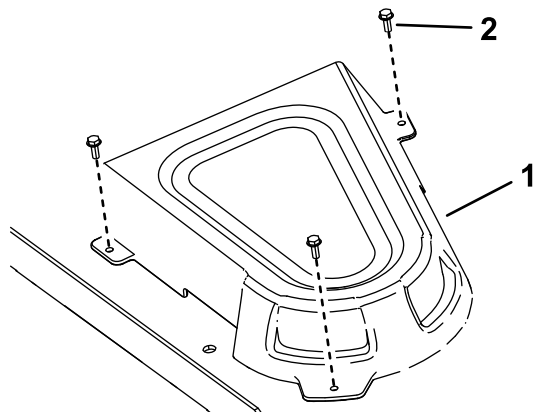

Figure 70
4. Remove the pulley covers (Figure 70).
- Install the pulley covers (Figure 70).